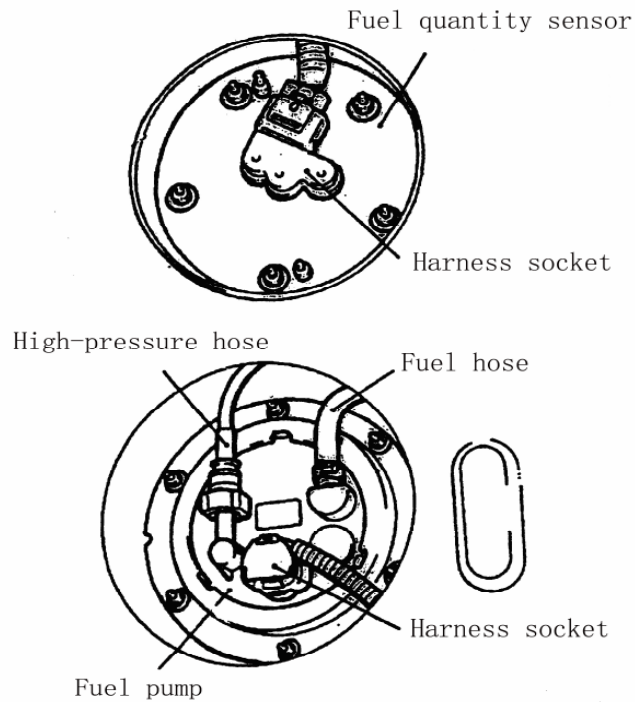

Fig.6-3
(1) FUEL QUANTITY SENSOR AND FUEL PUMNP REPLACEMENT (see Fig. 6-3)